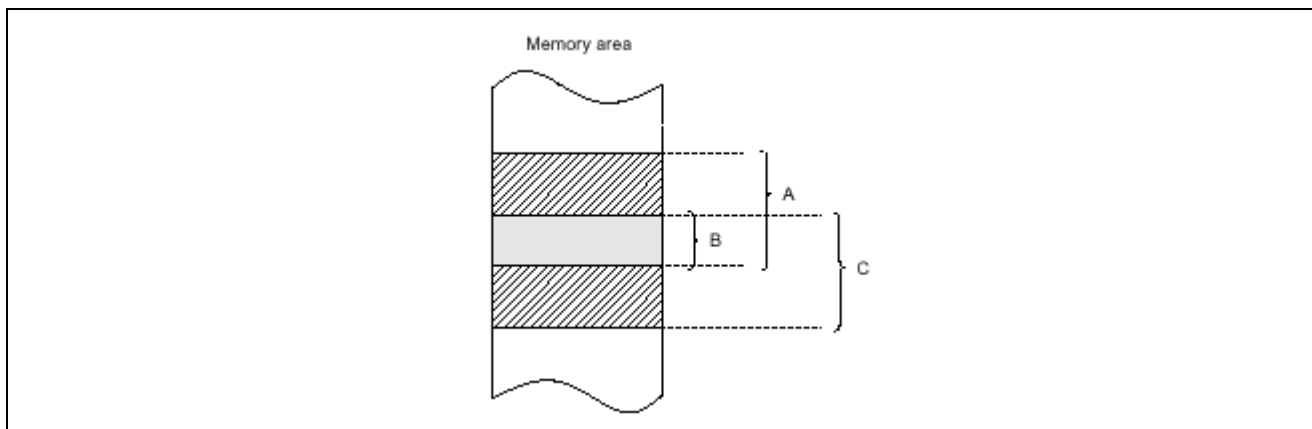

Figure 5.2 Moving Block Data with Overlapping Data Memory Areas
3. Set the input arguments, ensuring that the source data memory area (A) does not overlap the destination data memory area (C) as shown in figure 5.2. In the case of figure 5.2, the overlapped block data (B) at the source will be lost.